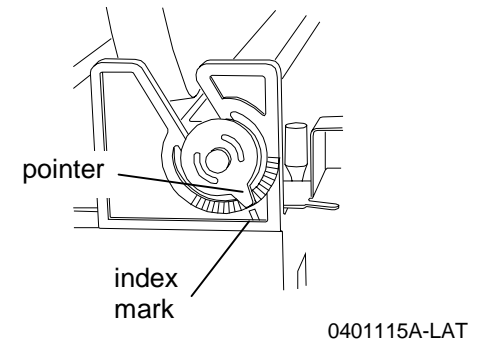

Figure 5.
9. Rotate both carriage shaft cams to align pointer with index mark (Figure 5).